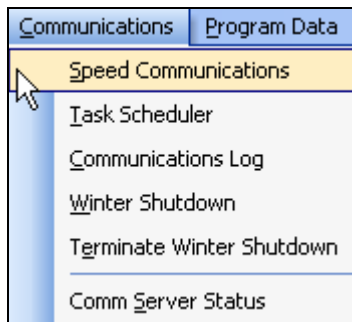

Figure 16.9.1B
1. In the toolbar at the top of the screen select **Communications** then scroll down to **Speed Communications** and click on it (Figure 16.9.1B).